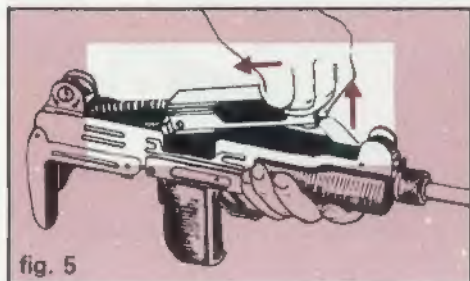

fig. 5
1. Lift the bolt up about 1", press backward about 1/2" and lift bolt and striker assembly out and forward. (fig. 5).